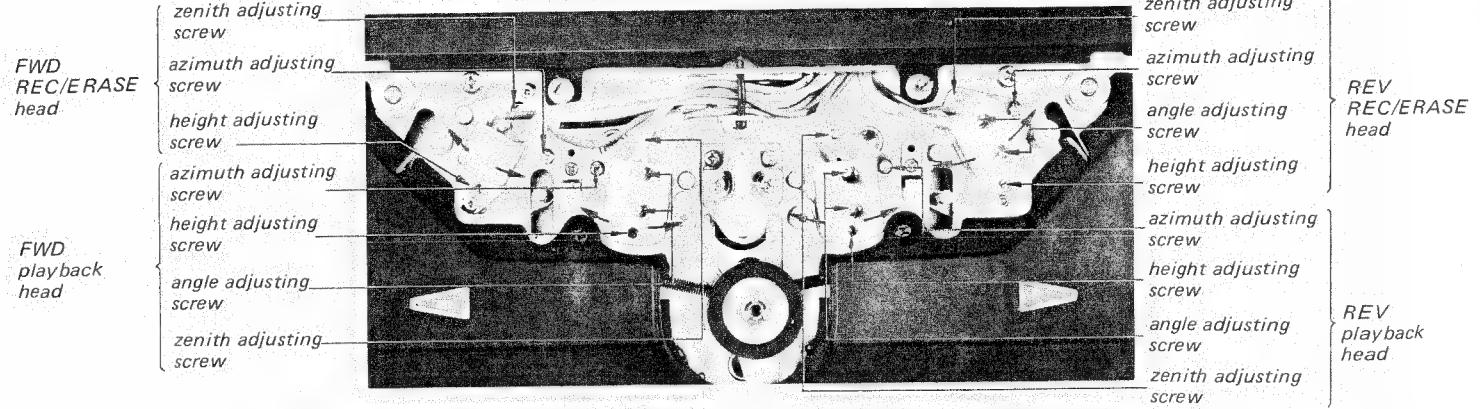

Fig. 3-26. Adjusting parts location (1)
| 6. Playback Head Azimuth and Angle Adjustment | <p>Test Setup:</p>  <p>Switch Setting: MONITOR switch TAPE</p> <p>Specification: Screw position where the maximum output is obtained.</p> | <p>(1) Play back the SONY alignment tape J-19-A2 (12.5 kHz).</p> <p>(2) Adjust the playback head azimuth adjusting screw for the maximum output on the VTVM.</p> <p>Note: If the maximum value for both channels can not be obtained at the same angle of the screw, take the mid between the two angles and make sure that the difference between the output obtained by turning the screw from the maximum output position and the each maximum output is within 0.5 dB.</p> <p>(3) Loosen the playback head angle adjusting screws.</p> <p>(4) Slightly, hold the supply reel table by the hand.</p> <p>(5) Adjust by moving the playback head in the direction shown by the arrows (See Fig. 3-26) so that the level fluctuation is the least at the maximum output and the playback output does not increase more than 0.5 dB.</p> <p>(6) Repeat the above steps (1) and (2).</p> <p>(7) Apply lock paint to the azimuth and angle adjusting screws.</p>  |
| Record Head Azimuth and Angle Adjustment | <p>Specification:</p> <p>*Screw position where the maximum output is obtained.</p> | <p>(4) Slightly, hold the supply reel table by the hand.</p> <p>(5) Make sure that the playback output does not increase more than 3 dB. If not, adjust by moving the record head in the direction shown by the arrows (See Fig. 3-26) so that the level fluctuation is the least at the maximum output.</p> <p>(6) Apply lock paint to the azimuth and angle adjusting screws.</p>  |